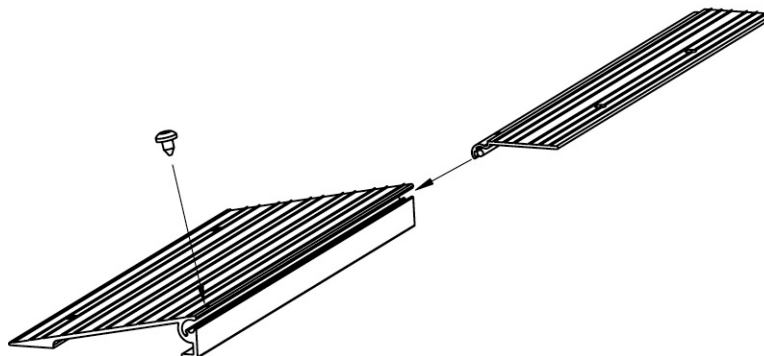

FIG. 3
- Slide sections together starting with the foot (A) until the hole and slot line up. Install #6 screw and tighten (FIG. 3). Continue installing extensions until desired height is reached. Install the flap (H), if used, in the uppermost extension.